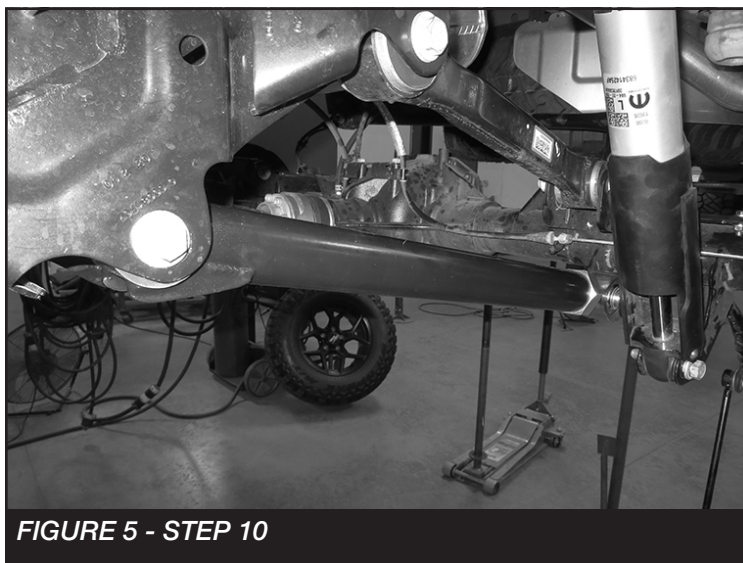

FIGURE 5 - STEP 10
10. Install the new Fabtech lower link using the supplied FT50415 (14mm Misalignments) and factory hardware like shown below. The joint end will mount on the axle side. Torque to 160 ft-lbs. **SEE FIGURE 5** Refer to diagram at the end of instructions for FT50507BK preset measurements.